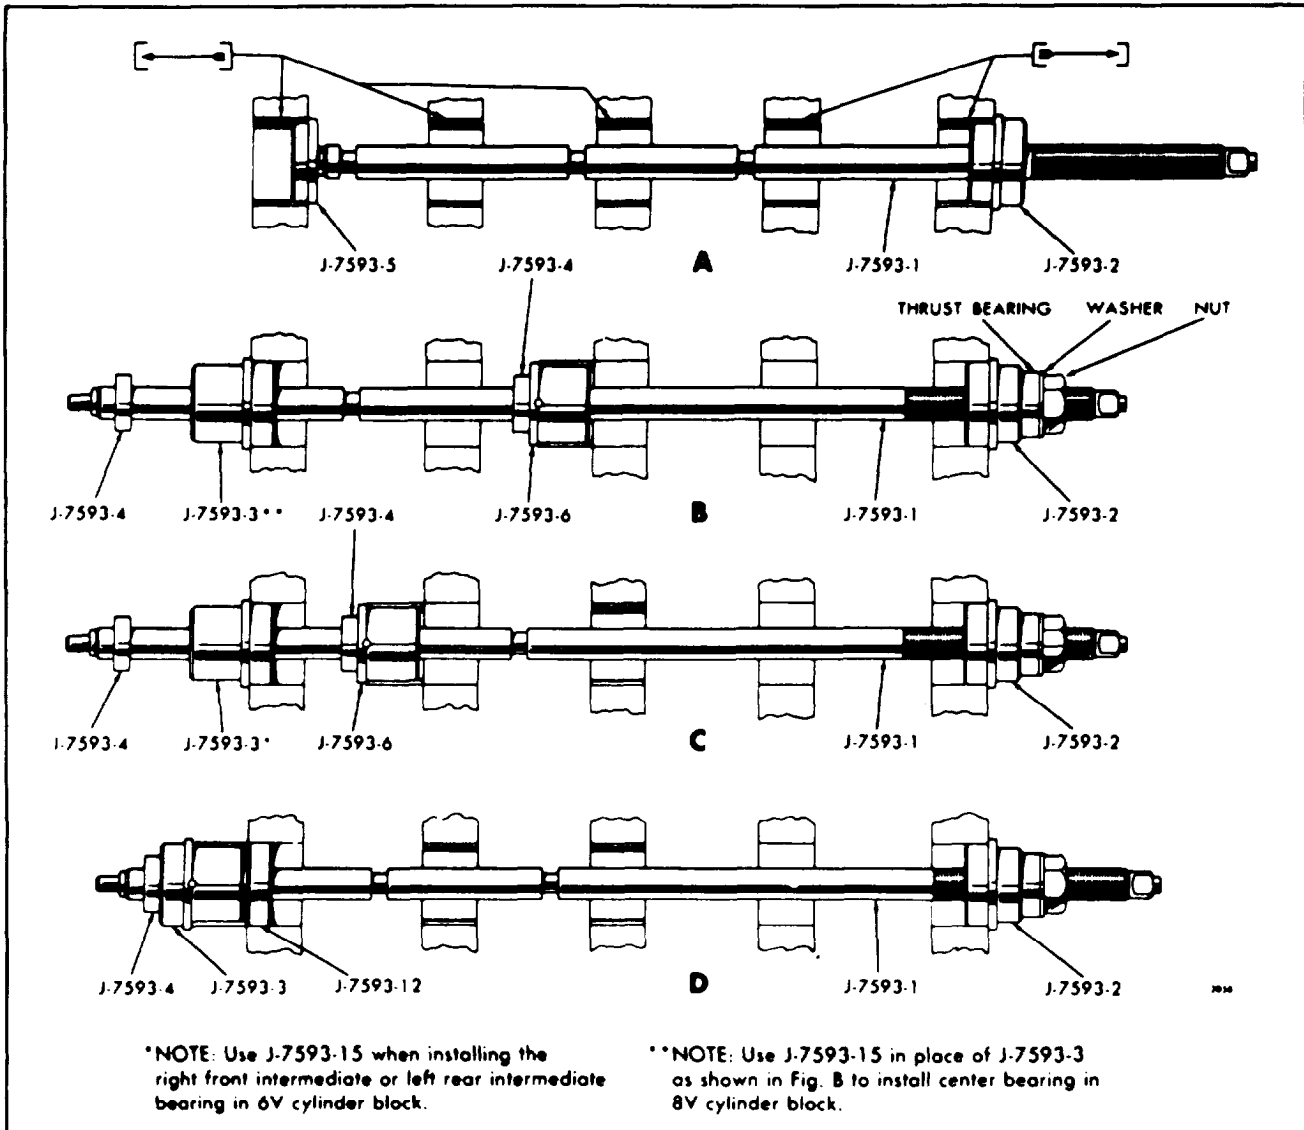

Fig. 7 Removing and Replacing Camshaft or Balance Shaft Bearings
1. Remove all accessories and assemblies with their attaching parts as is necessary so that tool set J 7593-02 may be used as shown in Fig. 3 and in A of Fig. 7.
end bearing has been installed Refer to B and C of Fig. 7.
4. Slide installer J 7593-6 on the shaft until the locating pin registers with the notch in the bearing. Then, slide installer J 7593-3 or J 7593-15 on the shaft with the large diameter inserted into the end of the block bore. Refer to C and note of Fig. 7.
1. Insert pilot J 7593-2 in the bore of the block as shown in "D" of Fig. 7. Use the small diameter of the pilot if a bearing has been installed.
5. Next, place a spacer (if required), thrust washer, plain washer and hex nut over the threaded end of the shaft as shown in "D" of Fig. 7 and, using a suitable wrench on the hex nut, draw the bearing into place until the shoulder on the installer prevents the shaft from further movement. The bearing is now installed in its correct position.